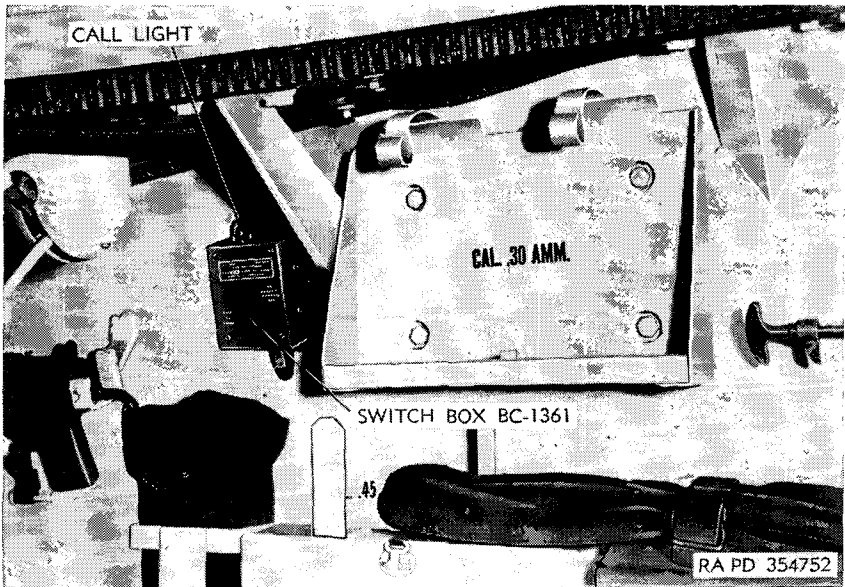

Figure 212. Switch box BC-1361.
- (2) *Switch box BC-1361* (fig. 212).